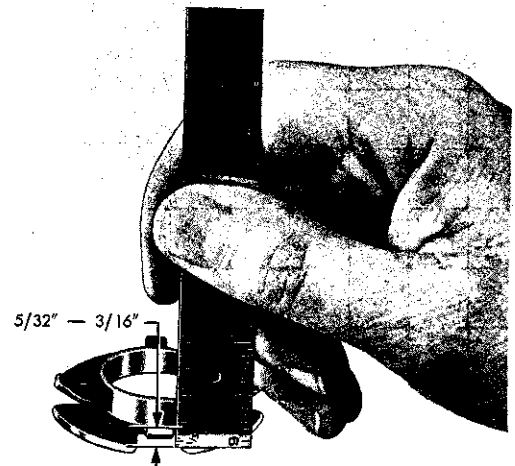

Fig. 20—Measuring the Height of the Solenoid Coil Retainer Tangs
(8) Bend the four (4) tangs of the coil retainer "up" to a measurement of 5/32" to 3/16" above the surface of the retainer (Fig. 20) to insure higher compression and a more positive ground.